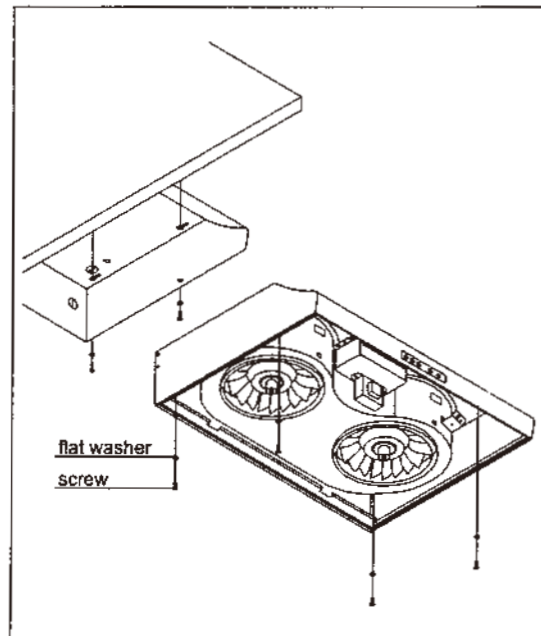

Fig. 15 Fit the keyhole slots over the screws
9. Fit the four wider ends of the keyholes into the four screws on the cabinet, then adjust the hood till the screws are pushed into the narrow part of keyhole slots. Remove each screw and add a 3/16" washers to screw on together. (Don't screw on too tightly.)(Fig. 15)